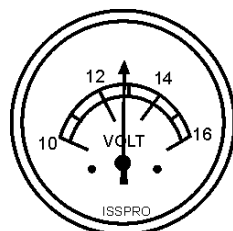

Figure 48. Battery Voltage Gauge
12. The battery voltage gauge (Figure 48) will indicate the voltage of the battery when the generator is operating. Under normal operating conditions this voltage is between 11.2 and 15.2 volts.